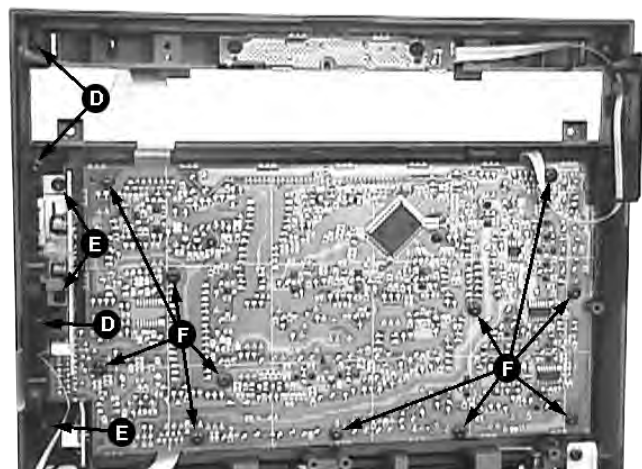

Figure 8
- 1) Remove the Jog and Volume knobs (pos 138 & 139) as stated in Dismantling the Cover Front Display.
- 2) Loosen 3 screws D to remove the Bracket CDC Right (pos 252) as shown in figure 8.
- 5) Loosen 6 screws G to remove the ETF7 Module (pos 1104).